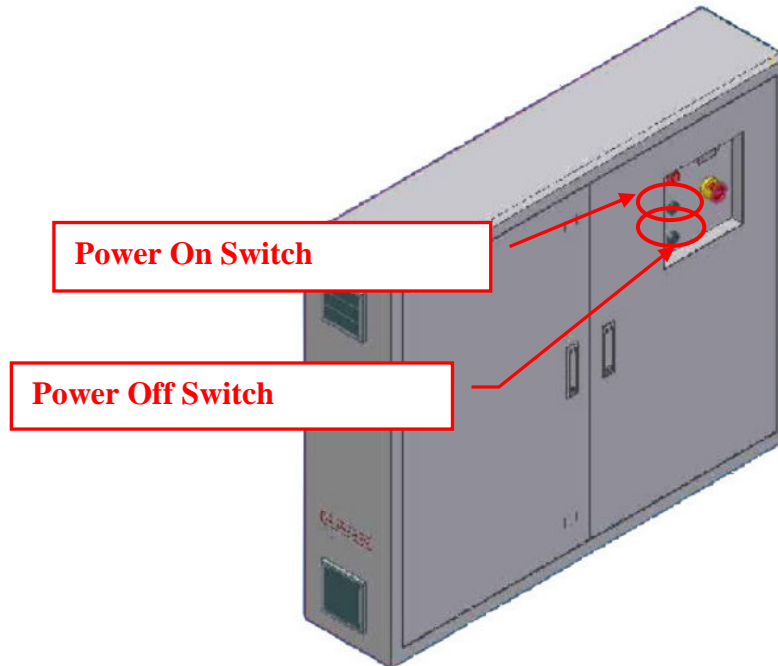

Fig. 6-10 Power Switch
Step 4 : Turn on the power as shown in Fig. 6-10.